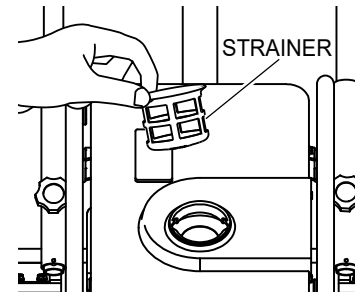

Figure 47. Fuel Strainer Removal
2. Remove the fuel tank cap and strainer (Figure 47).